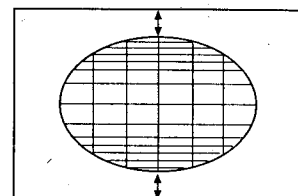

Fig. 6
- Adjust the S-correction to obtain a balance between upper, lower and center. (fig. 6).